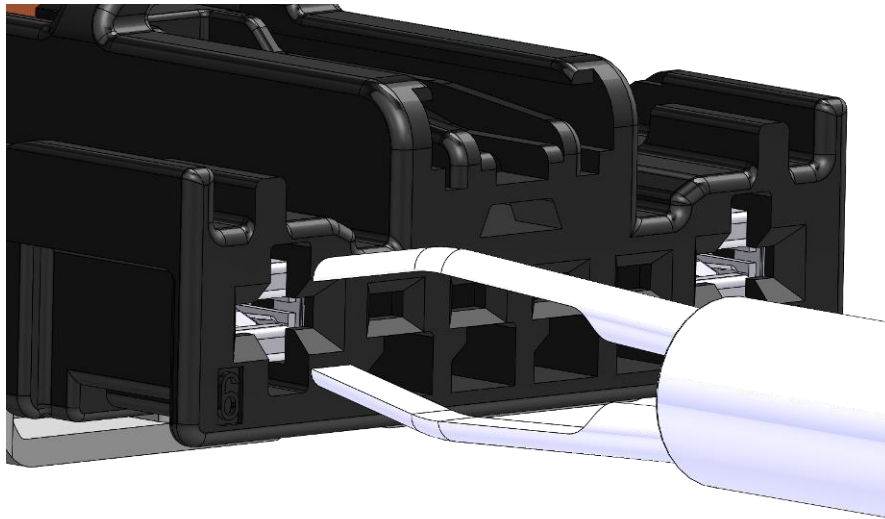
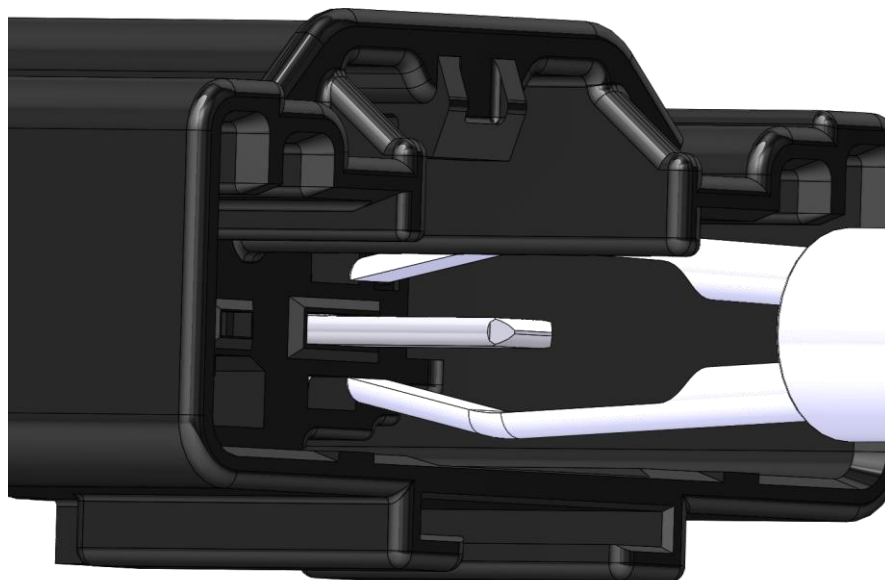

Figure 57 2.8 terminal extraction - female connector / Extraction des contacts 2.8 – porte-clips
Figure 58 2.8 terminal extraction - male connector / Extraction des contacts 2.8 – porte-languettes
Position the removal tool in front of the appropriate cavity as shown on Figure 57 and Figure 58.
*Positionner l'outil en face de la cavité appropriée comme montré en figures 57 et 58.*